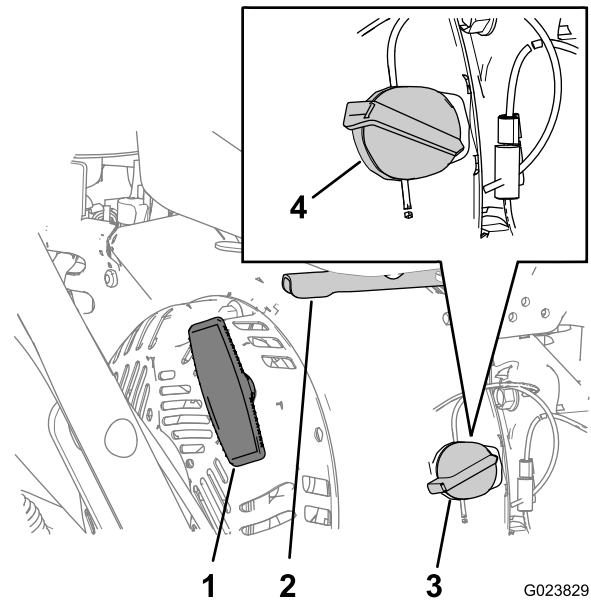

Figure 10
- On the right side of the engine, rotate the engine On/Off switch clockwise to the ON position (Figure 10).
- Place the throttle midway between the SLOW and FAST positions located on rear, right side of the engine (Figure 10).
- Slowly pull the engine-recoil handle until you feel resistance and then stop (Figure 10).
- Place the throttle midway between the SLOW and FAST positions (Figure 10).
- Allow the engine to run for a minimum of 15 seconds, then turn the engine On/Off switch to the OFF position to stop the engine (Figure 10).